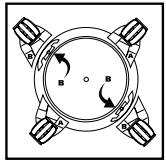

FIGURE 4
5. Take caster feet marked with the letter **B** and place on right front and left rear of tank also marked with the letter **B**. **FIGURE 4**.